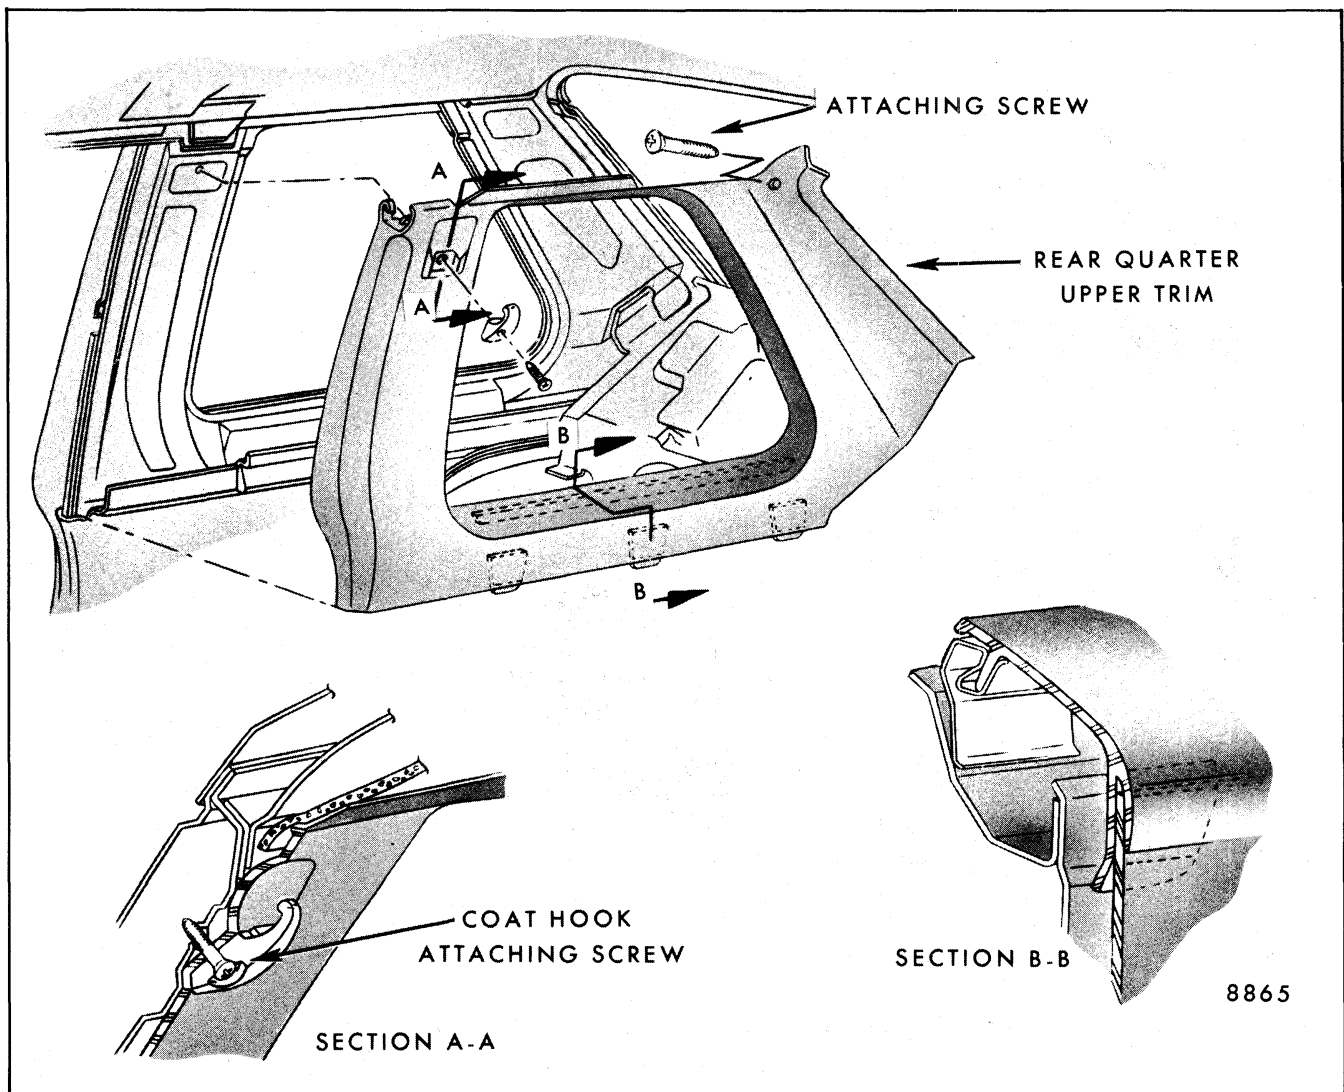
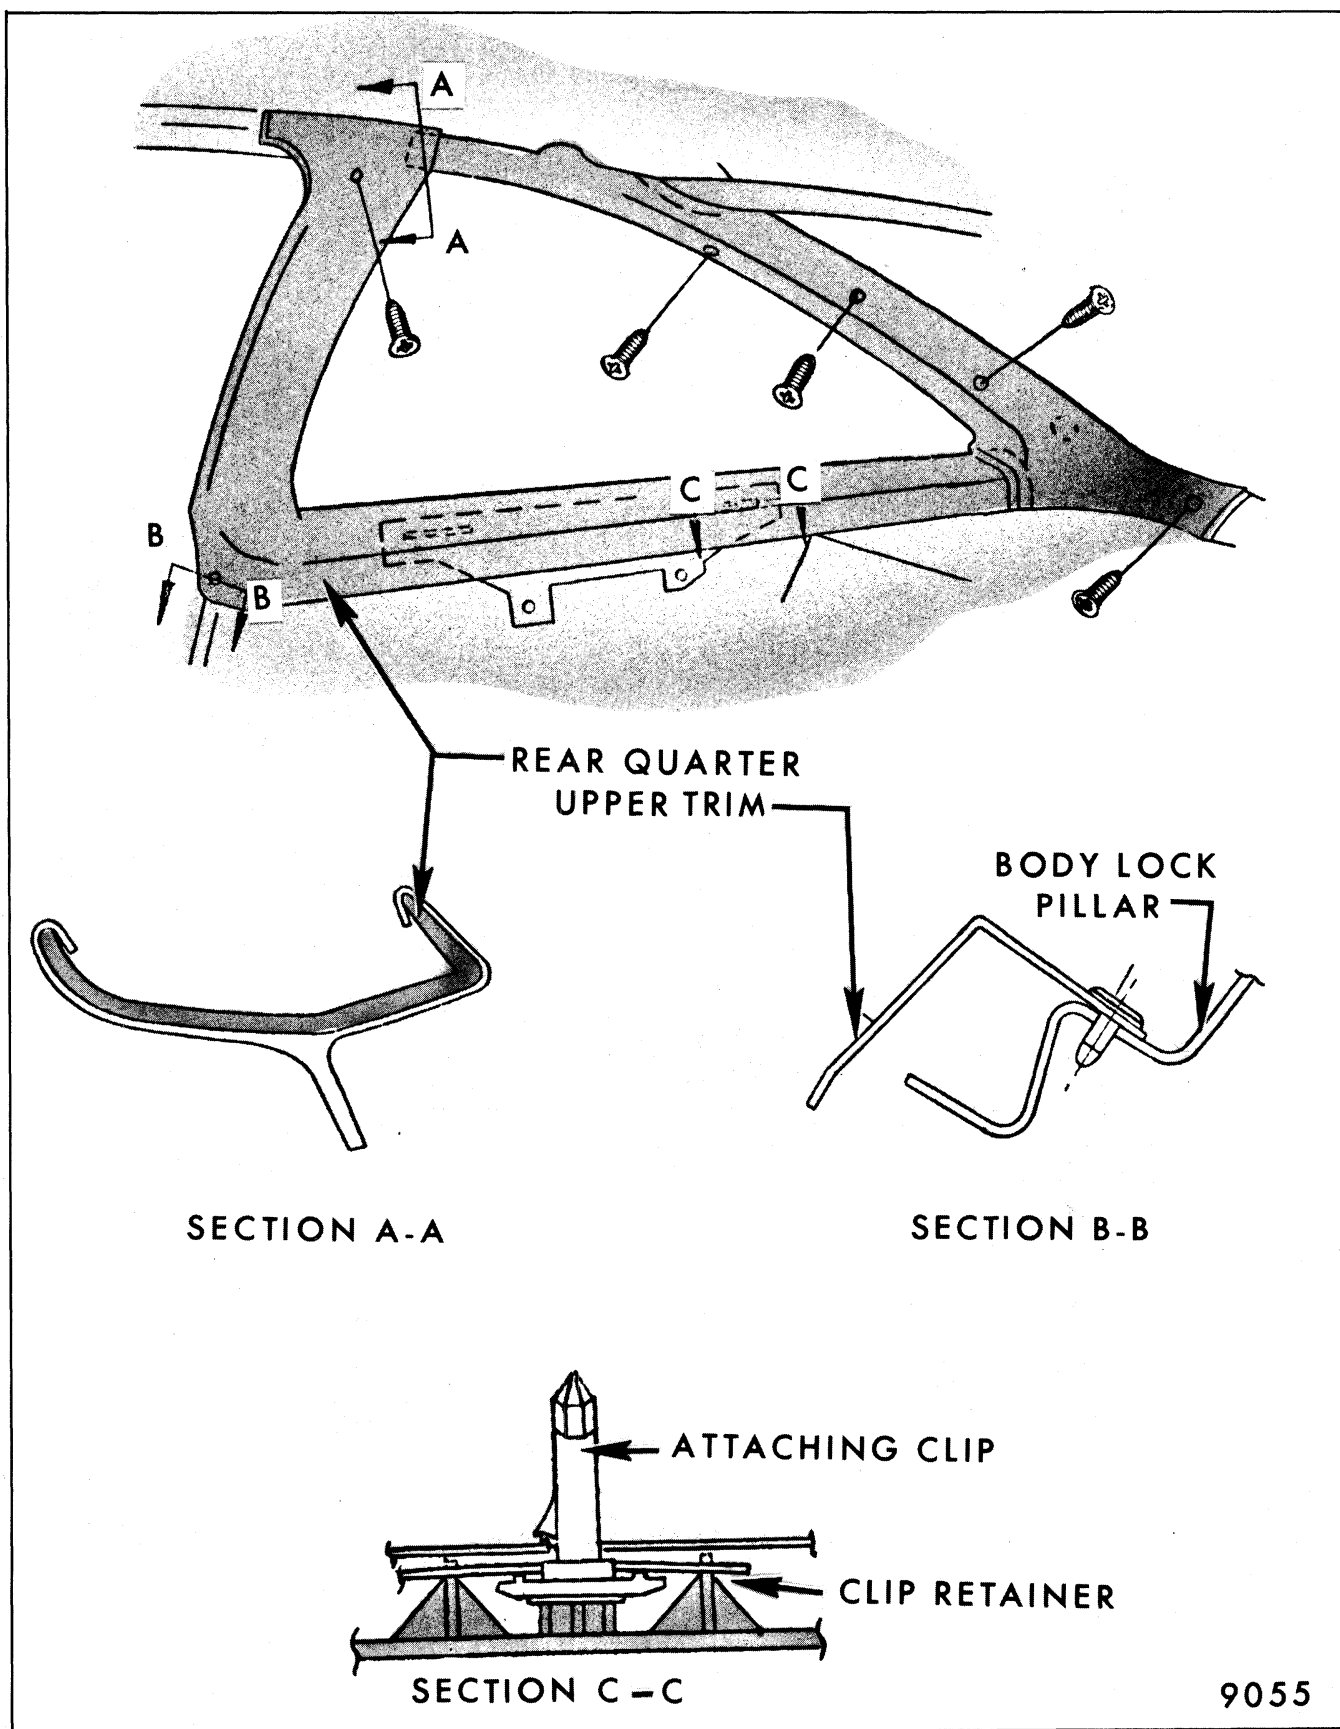
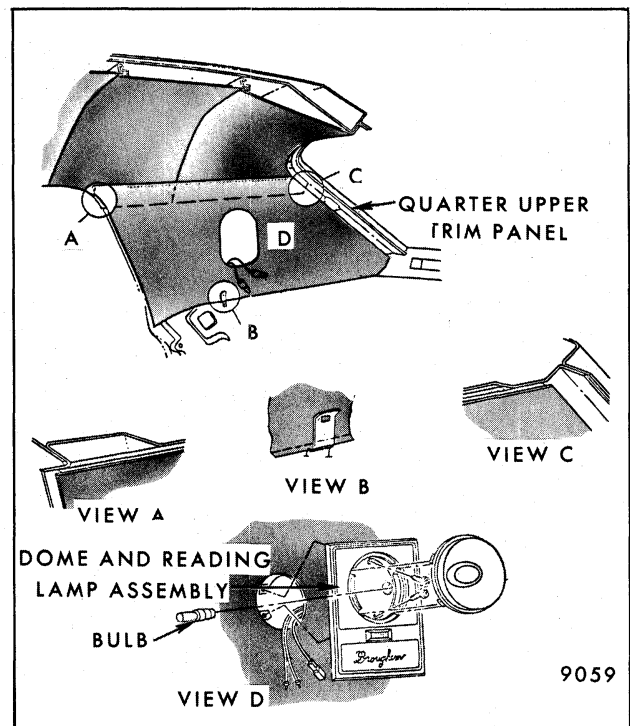

Fig. 6-12-Quarter Upper Trim Attachment - "H-27 and A-57" Styles
Fig. 6-13-Quarter Upper Trim Attachment "A-37" Styles
Fig. 6-19-Quarter Upper Trim Attachment - Cadillac "C-69" Style
3. On "A-29 and 37" styles insert tool J-24416 or equivalent, between upper edge of trim and inner panel. Pry clip and molding inboard to remove (Fig. 6-13).
4. To remove clips at base of quarter window, lift quarter trim panel up at body lock pillar until first retaining clip is visible. Using a flat-bladed screwdriver, pry panel upward to separate from plastic retaining clip metal bracket (Fig. 6-13). To remove clip from quarter inner panel piercing, depress tab and pull upward with pliers.
wire through trim panel. Also, position trim assembly at lower retaining clip (View B, Fig. 6-19; Section B-B, Fig. 6-12; Section C-C, Fig. 6-13) and along front and rear edges. Then secure fasteners with moderate hand pressure. Reverse balance of removal operations.
8. To remove, loosen adjacent moldings where required and remove visible attaching screws (Figs. 6-12, 6-13, 6-14, 6-16, 6-17 and 6-20).